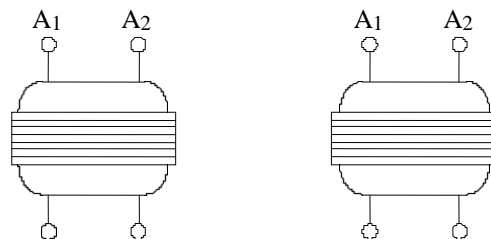

Figure 2
- When the two transformers have been polarity tested, transfer your terminal markings onto the diagram shown in figure 2.